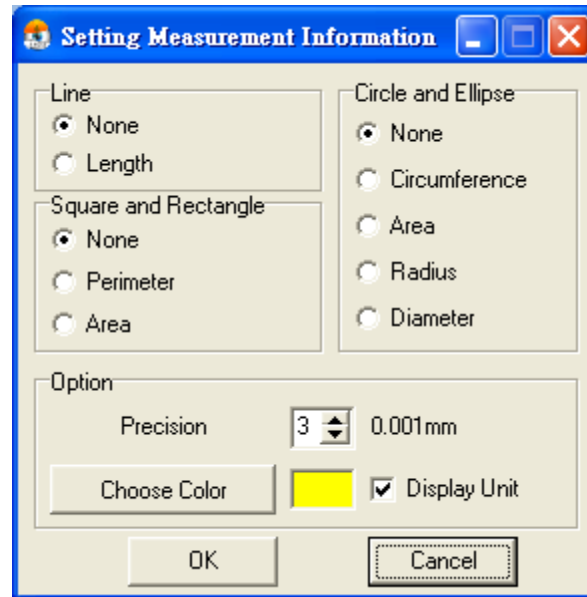
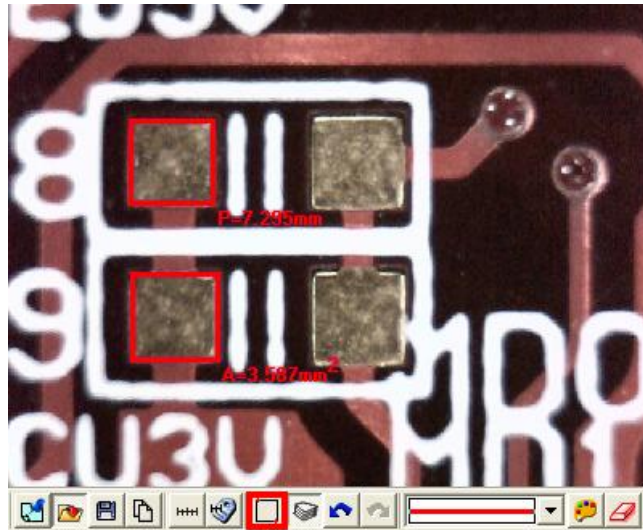
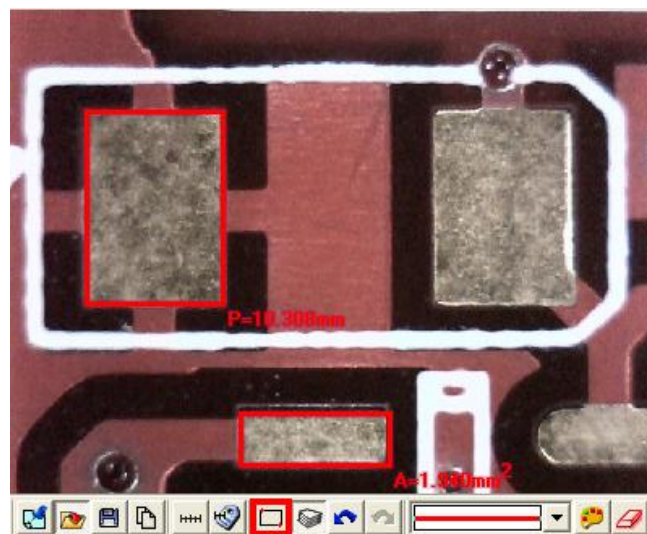

Fig.5-60 Scale information setting dialog
Fig 5-66 Square
Fig 5-67 Rectangle
This dialog may set whether can apply the unit, shown in Fig. 5-60. Choose “length” can apply a line the length, by capital letter “L” expression, if length is 2.33mm, will express line is L=2.33mm. If select “none”, it will not apply the length. “perimeter” by capital letter “P” expression, “area” by capital letter “A” expression” circumference” by capital letter “C” expression, ”radius” by capital letter “R” expression, “diameter” by capital letter “D” expression.
Firstly choose Fig.5-60 Scale information setting dialog. Measure the Length
- (2) 2 Points Circle: Measure the round object can use . Firstly choose Fig.5-60 Scale information setting dialog. To point any dot on the circle, pressing the left button of the mouse and drag the line to another point on the circle. It should automatically calculate C: Circumference, A: Area, R: Radius, D: Diameter. See 1st circle: C=2.276mm, 2nd circle: A=0.412mm², 3rd circle R=0.716mm, and 4th circle D=1.467mm.
- (3) 3 Points Circle: See an arc or a circle shows on the observation only and need measure the circle, it can use . Firstly choose Fig.5-60 Scale information setting dialog. To point any point on the edge of an arc, draw a line to second point, then drag the line to the third point on the same arc, to automatically
- (4) Oval: Measure an oval circle and use . Firstly choose Fig.5-60 Scale information setting dialog. To point any dot on an oval, pressing the left mouse button, and drag to fit the oval on an observation object. Same methods as Circle to be measured for 2 Points Circle and 3 Points Circle, 1st oval $C=6.703\text{mm}$, 2nd oval $A=2.947\text{mm}^2$, 3rd oval: $lR=1.328\text{mm}$, $sR=0.714\text{mm}$, 4th oval $lD=2.826\text{mm}$, $sD=1.428\text{mm}$.
- (5) Square: To measure the object is a parallelogram, it can use . Firstly choose Fig.5-60 Scale information setting dialog. To point one dot on the angle, pressing the left mouse button, and drag the diagonal to make a square and fit the observed object. See Fig 5-66 , P : Perimeter, A: Area, see Fig 5-66, the top square on left P=7.295mm, the bottom square on left A=3.587 mm².
- (6) Rectangle: Measure a rectangle and use . Firstly choose Fig.5-60 Scale information setting dialog. To point one dot on the corner, press the left mouse button, and drag the diagonal to make a rectangle to fit the observed object. See Fig 5-67, P : Perimeter, A: Area, see Fig 5-67, the top rectangle on left P=10.308mm, the bottom rectangle in the middle A=1.940 mm².